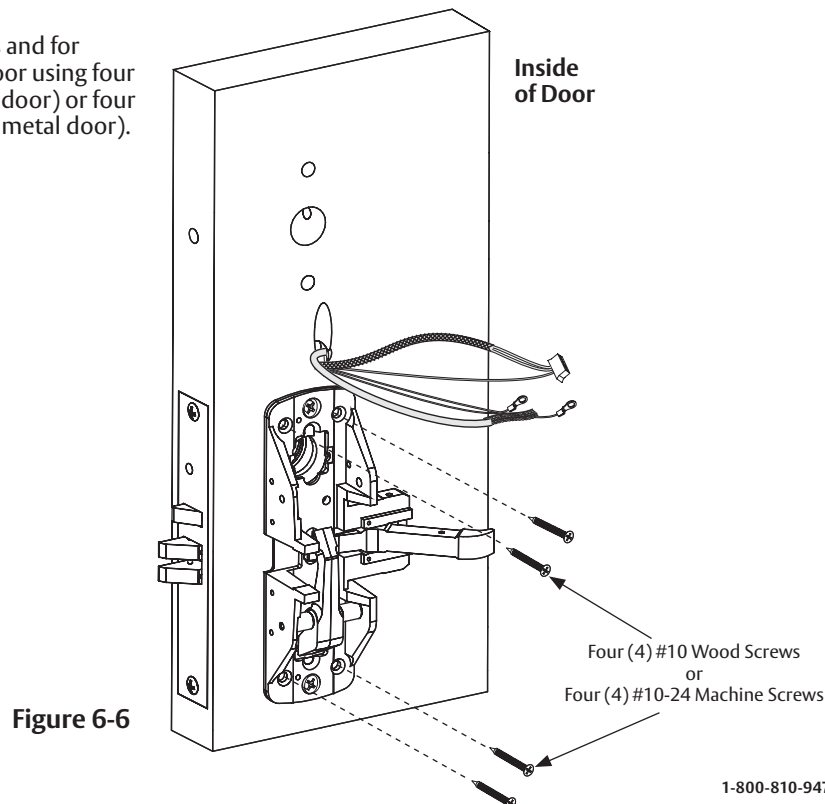

Figure 6-6
To comply with UL certifications and for security, fasten exit chassis to door using four (4) #10 wood screws (for wood door) or four (4) #10-24 machine screws (for metal door). (Figure 6-6)